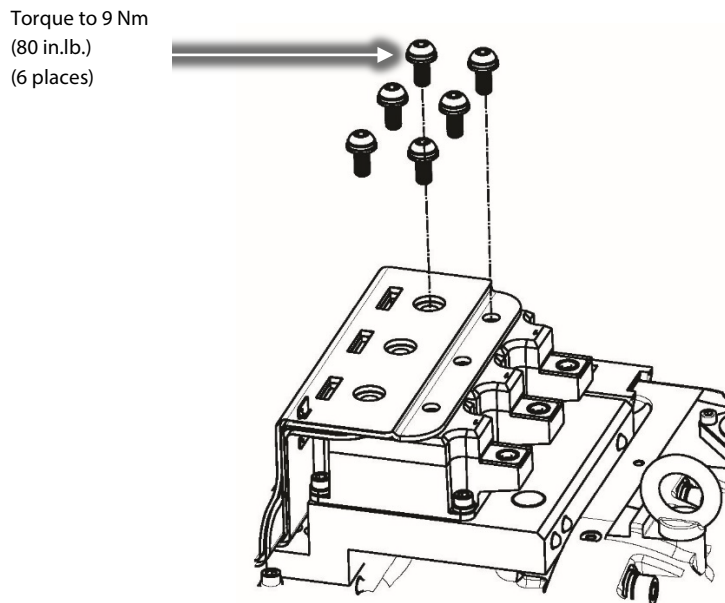

Figure 10 – SCR Bus Screw Removal
18. Remove the three (3) capacitor, IGBT snubbers.
19. Remove the six (6) DC bus screws from the SCRs. Refer to Figure 10 (SCR Bus Screw Removal). Refer to Figure 10 (SCR Bus Screw Removal).